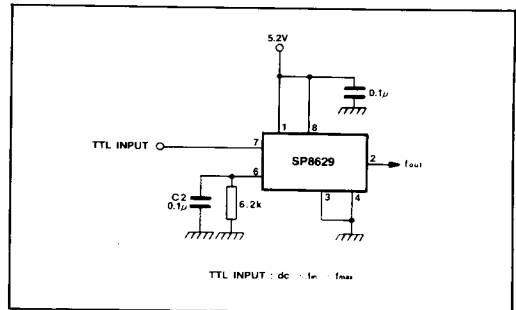

Fig.7 TTL input (DC <math>< i_{in} < i_{max}</math>)
4. The input waveform will normally be sinusoidal but below 10MHz correct operation depends on the slew rate of the input signal. A slew rate of 50V/ μs will enable the device to operate down to DC. The device will operate with a TTL input signal as shown in Fig. 7 and is DC coupled to the input.